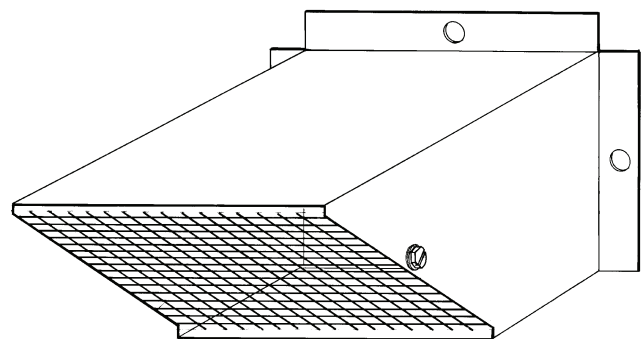

Fig. 61 — Flue Outlet Hood
2. Attach flue outlet hoods (see Fig. 61) to access panel using screws provided. Hoods are placed over each combustion outlet.